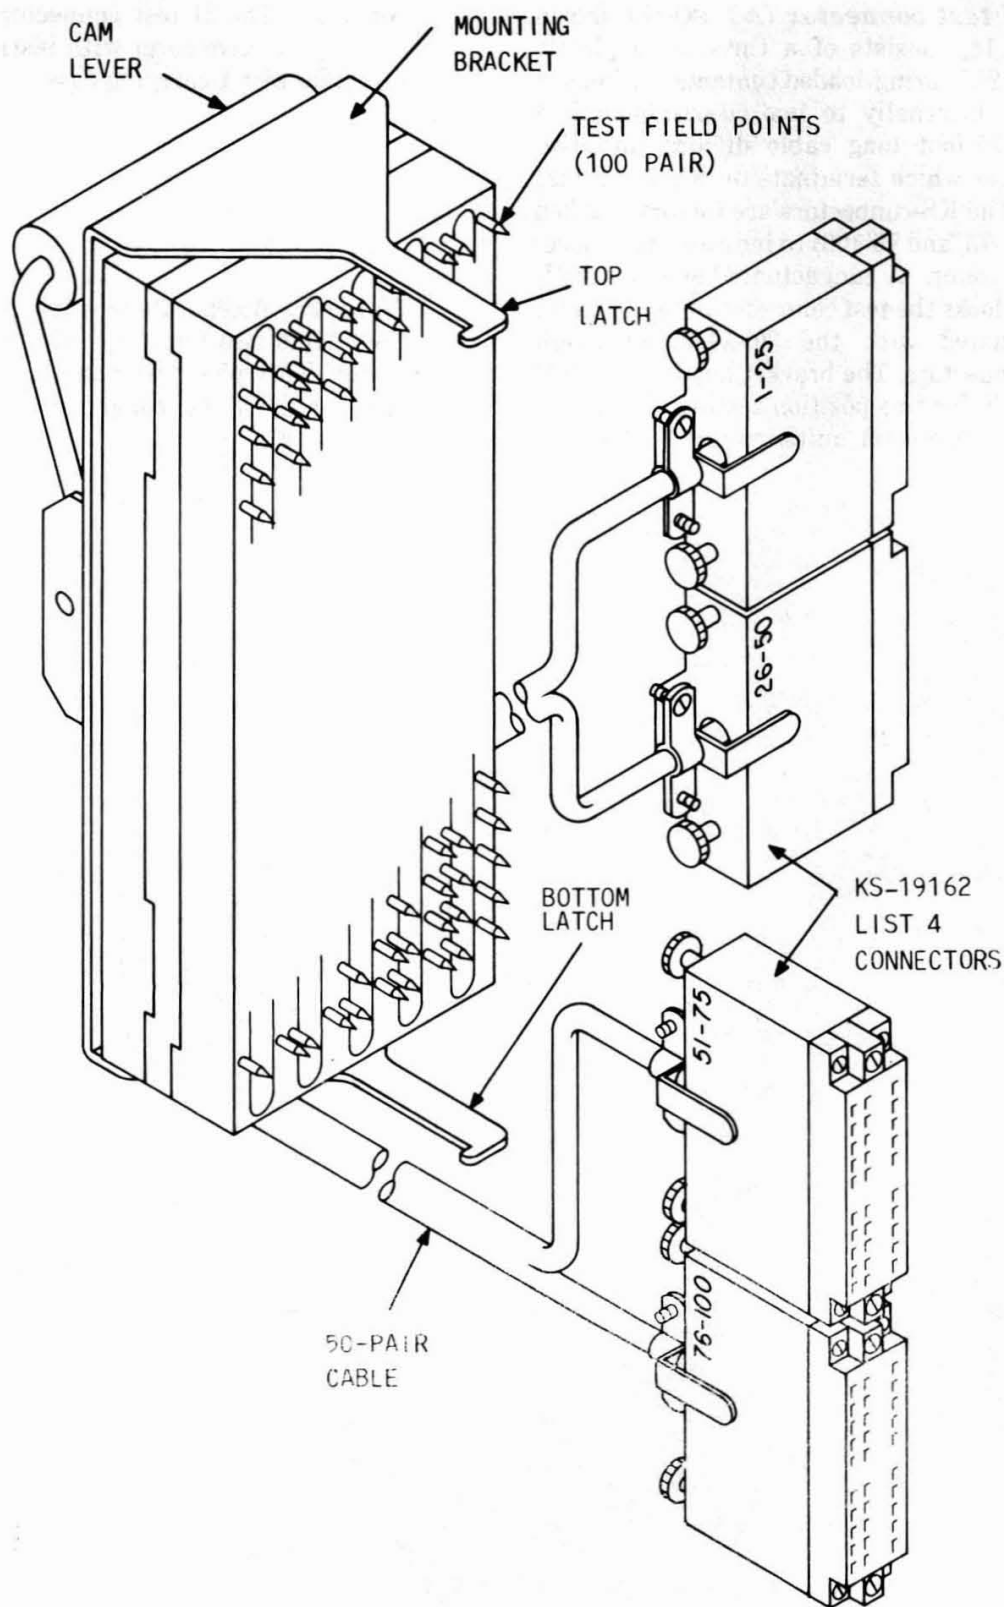

Fig. 14—U Test Connector
2.09 ♦The *U test connector (AT-9007)*, shown in Fig. 14, consists of a three-piece plastic mold in which 200 spring-loaded contacts are housed and connected internally to two 50-pair sheathed cables. Each 15-foot long cable divides into two 25-pair branches which terminate on KS-19162 List 4 connectors. The KS-connectors are factory marked (1-25, 26-30, 51-75, and 76-100) to indicate the respective cable pair count. A cam actuated lever on the U test connector locks the test connector onto the metal bracket associated with the 309A1-200 through 309E1-type connectors. The bracket has two notched areas to provide for two-position testing, ie, with or without 4C-type protector units installed (Fig. 15).